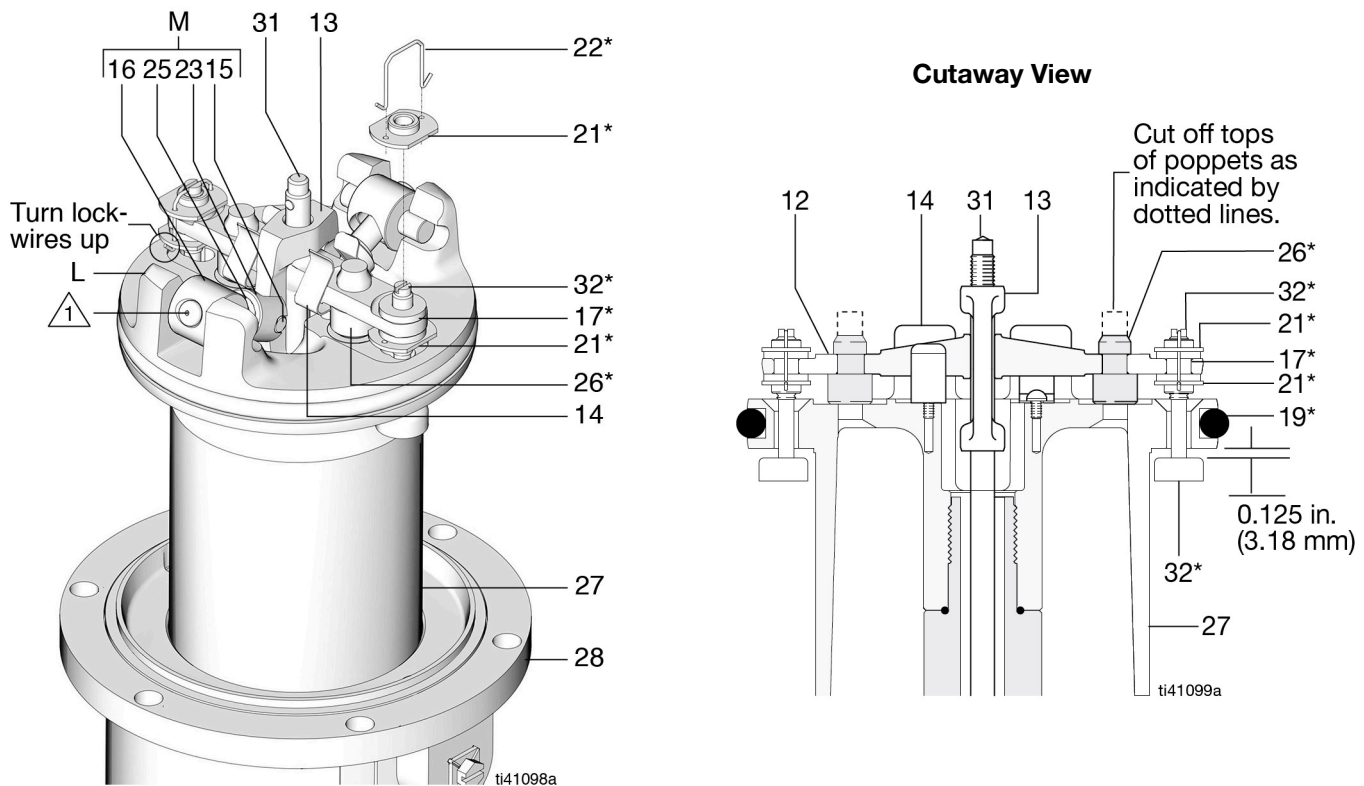

FIG. 4 Air Motor and Throat
12. Using a screwdriver, push down on the trip rod yoke (13), and snap the toggles down (FIG. 4).
13. For this step, while prying with the screwdriver with one hand, cover the toggle assemblies with the other hand to catch the spring-loaded toggle assemblies as they snap out of the lugs. Place the tip of the screwdriver into the piston between the piston lugs (L) below the pivot pins (16) on the toggles, pry up using the screwdriver handle to compress the springs on the toggle assembly (M) up and away from the piston lugs, and remove the parts (FIG. 4).
14. Straighten the lock wires (22*) and remove them from the valve nuts (21*). Screw the top nuts off. Remove the trip rod yoke (13), actuator (12), and trip rod (31). Unscrew the bottom nuts (21*) and remove the poppets. Make sure the valve bar spring clips (14) are not worn or damaged, and that they properly guide the actuator (12).
15. Remove the exhaust valve poppets (26) by cutting them with a side cutter, then pull them out of the actuator (12).
1. Place the piston rod (29) flats in the vise with the air motor facing up.
2. Pull the exhaust valve poppets (26*) into the valve actuator (12), and clip off the top parts of the poppets (shown with dotted lines in the Cutaway View in FIG. 4).
3. Install the grommets (17*) in the actuator (12), place the inlet valve poppets (32*) in the piston, and thread the bottom valve nuts (21*) onto the inlet valve poppets until there are a few threads left before the threads run out.
4. Grease heavily and place the trip rod (31) in the piston, place the actuator (12) in the yoke (13), and place the well-greased actuator/yoke assembly in the piston, with the trip rod going through the center holes of the actuator and yoke and the inlet valve poppets (32*) going through the grommets (17*).
6. Install the toggle pins (15) in the yoke (13), place the toggle arm (23) ends of the toggle assembly (M) onto the toggle pins, and snap the pivot pin (16) ends of the toggle assembly into the lugs (L).
7. Measuring with the gauge (Part No. 171818), create 0.125 in. (3.18 mm) of clearance between the inlet valve poppets (32*) and the piston seat when the inlet valve is open. See the Cutaway View in FIG. 4.